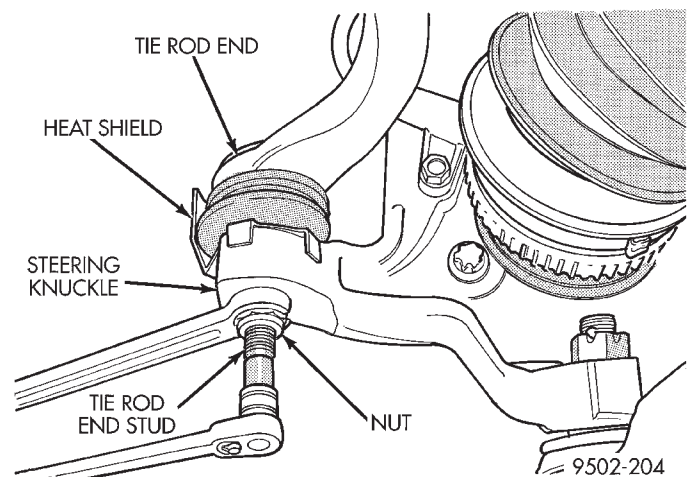
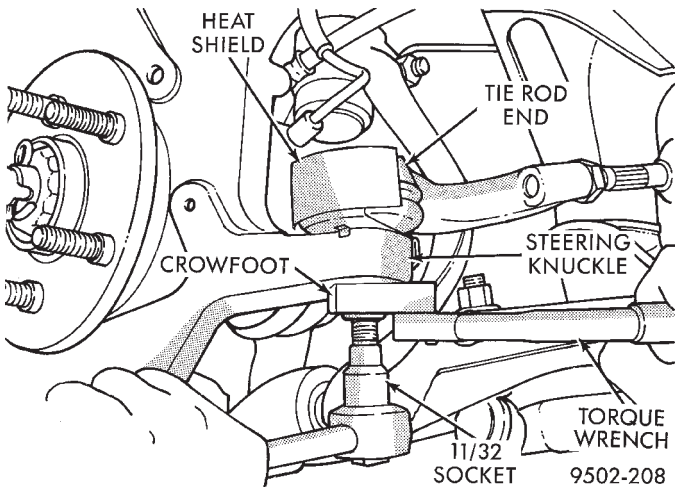

Fig. 26 Removing Tie Rod End Nut
Fig. 28 Torquing Tie Rod End Attaching Nut
(2) Remove nut attaching outer tie rod end to steering knuckle (Fig. 26). **Nut is to be removed from tie rod end using the following procedure, hold tie rod end stud with a 11/32 socket while loosening and removing nut with wrench.**
- (1) Install outer tie rod onto inner tie rod. **Make sure jam nut is on inner tie rod.**
- (2) Do not tighten jam nut.
- (3) Install tie rod end seal boot heat shield (Fig. 26) on the tie rod end.
- (4) Install tie rod end into the steering knuckle. Start tie rod end to steering knuckle attaching nut onto stud of tie rod end. While holding stud of tie rod end stationary, tighten tie rod end to steering knuckle attaching nut (Fig. 26). Then using a crow-foot and 11/32 socket, (Fig. 28) torque tie rod end attaching nut to 61 N·m (45 ft. lbs.).